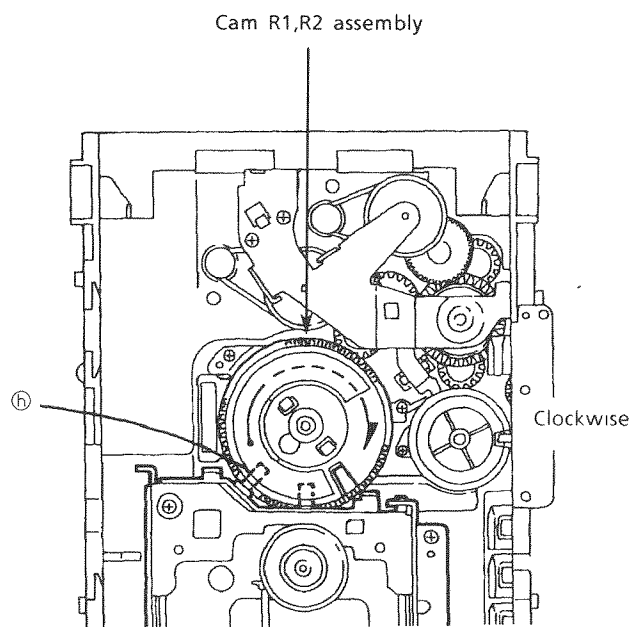

Fig. 37
1. If CD mech. is removed without disassembling CD mech. ass'y, rotate the Cam R1, R2 ass'y clockwise to set the CD mech. ass'y's shaft(L) as shown in Fig. 37.